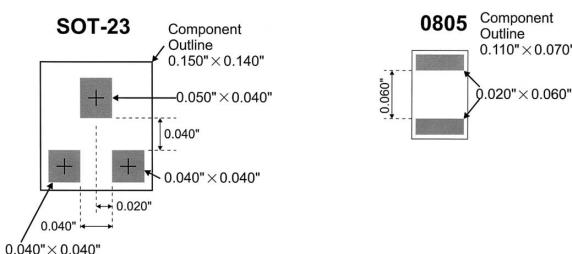

Figure 203 SOT-23 and 0805 SMT pad design
- 4** When planning your wiring, do power first and be sure that nothing is "blocked." Never lay a power trace over another that will prevent signal traces from following through. It is important to remember to always stagger them so that traces can pass between them (Fig. 203)